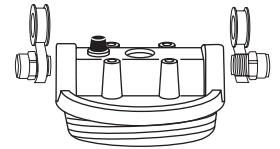

Figure 5
6. Wrap Teflon® tape (2 1/2 wraps) around the 3/8" fitting in a clockwise direction and fasten to filter head (see Figure 5). Do not use pipe sealant (dope), as solvents in some types of pipe dope may cause damage to plastic fittings.